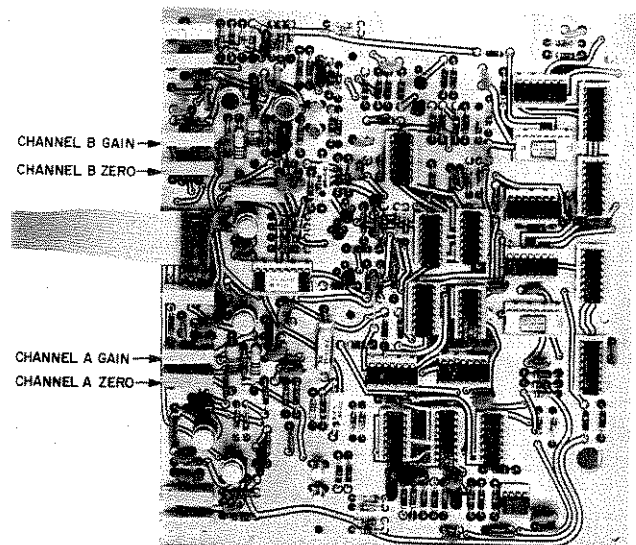

Figure IV-19. DIGITAL STORAGE ZERO AND GAIN ADJUSTMENTS
(2) Zero Adjustments (Figure IV-19)
(3) Gain Adjustments (Figure IV-19)